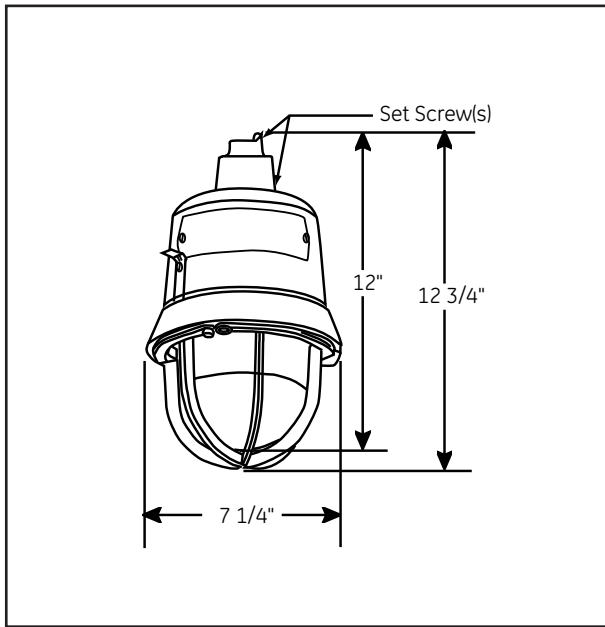

Figure 2. Detail of Pendant Mounting
- a. **Pendant Mount Models** (Figure 2): Install the catalog number 116EX-P, pendant mounting module, to the main housing, tighten set-screw. Install explosion-proof hanger box (not supplied). Secure 3/4" (19 mm) NPT threaded conduit (not supplied) to the box. Install the unit on the conduit. Ensure conduit engages at least